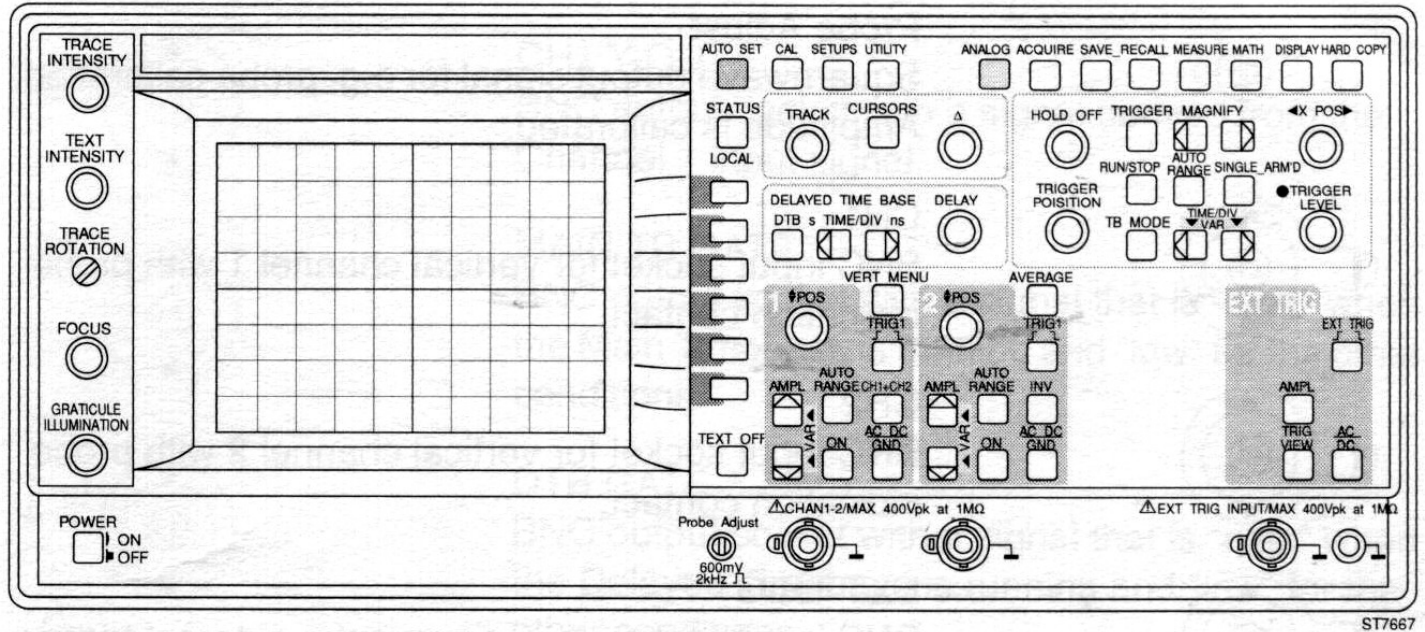

Figure 1: Fluke PM3380A Autoranging CombiScope Instrument^[1]
1. Turn on the Fluke PM3380A Oscilloscope (Fig. 1) and the PM5139 Function Generator.